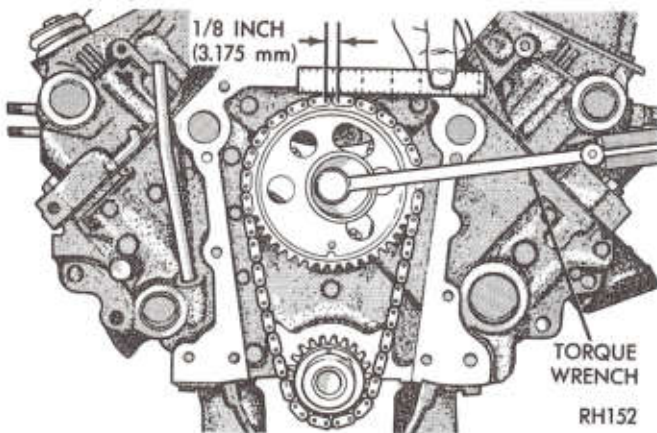
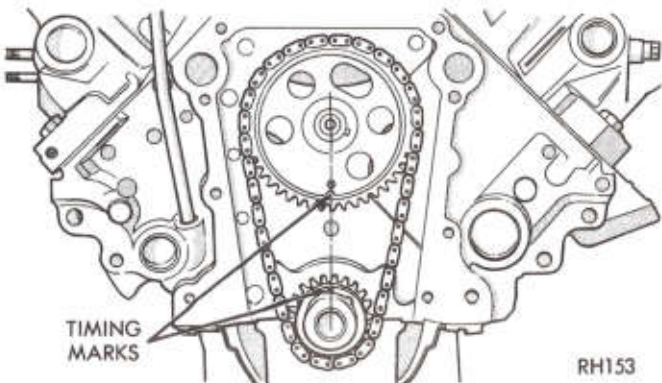

Fig. 24—Measuring Timing Chain Wear and Stretch
Fig. 25—Alignment of Timing Marks
(3) Holding a scale with dimensional reading even with edge of a chain link, apply torque in the reverse direction 30 ft. lb. (14 N·m) (with cylinder heads installed) or 15 ft. lb. (20 N·m) (cylinder heads removed) and note amount of chain movement (Fig. 24).
(4) Install a new timing chain, if its movement exceeds 1/8 (3.175mm) inch.
(5) If chain is not satisfactory, remove camshaft sprocket attaching cup washer, fuel pump eccentric and remove timing chain with crankshaft and camshaft sprockets.
(6) Place both camshaft sprocket and crankshaft sprocket on the bench with timing marks on exact imaginary center line through both camshaft and crankshaft bores.
(7) Place timing chain around both sprockets.
(8) Turn crankshaft and camshaft to line up with keyway location in crankshaft sprocket and in camshaft sprocket.
(9) Lift sprockets and chain (keep sprockets tight against the chain in position as described).
(10) Slide both sprockets evenly over their respective shafts and use a straight edge to check alignment of timing marks (Fig. 25).
(11) Install the fuel pump eccentric, cup washer,